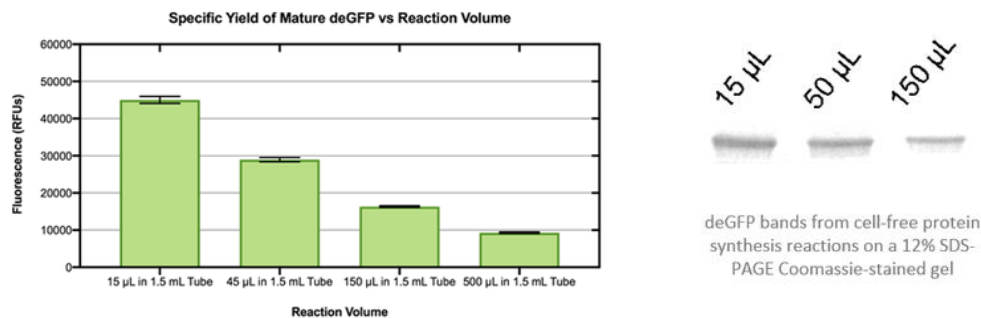

Fig 1. Effect of reaction volume on specific yield under standard test-tube conditions
- Specific yield for cell-free reactions under standard test tube conditions drop as reaction sizes increase (Fig. 1). This problem can be solved by using one of our cell-free protein expression cartridges (Fig. 2), which are included in the kit. For small reactions, select a reaction vessel 100X the size of your reaction. For example, a 15µL reaction yields the best results in a 1.5mL tube as opposed to a PCR tube.